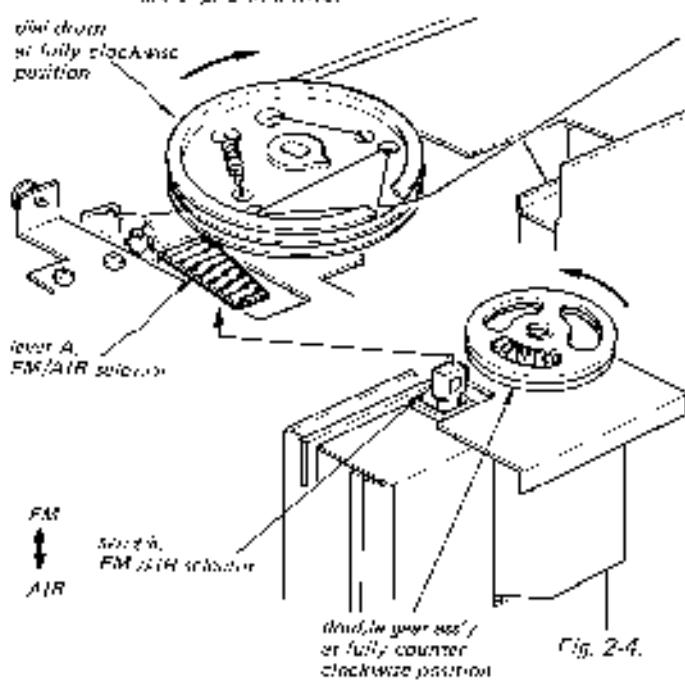

Fig. 2-4.
(2) I-F T-E-2 is unable to adjust from rear part of the set. Remove the front panel and adjust I-F T-E-2 from front part. (See Fig. 2-4).